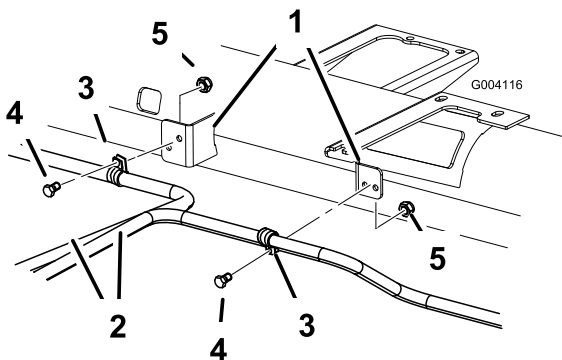

Figure 13
1. Install the R-clamps removed previously using 2 screws and lock nuts to secure the hydraulic tubes to the machine frame shown in Figure 13.